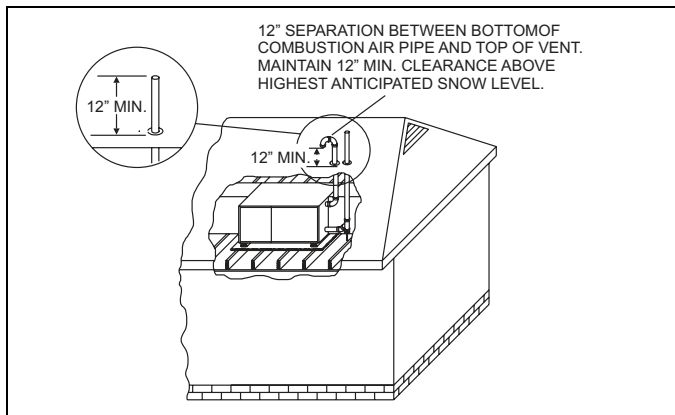

FIGURE 21: Termination Configuration - 2 Pipe Horizontal
7. A vent drain is required when vent passes through any unconditioned space such as an attic or crawl space in order to prevent the accumulation of excess condensate in the inducer motor during operational cycles. Refer to Figure 21 & 22.